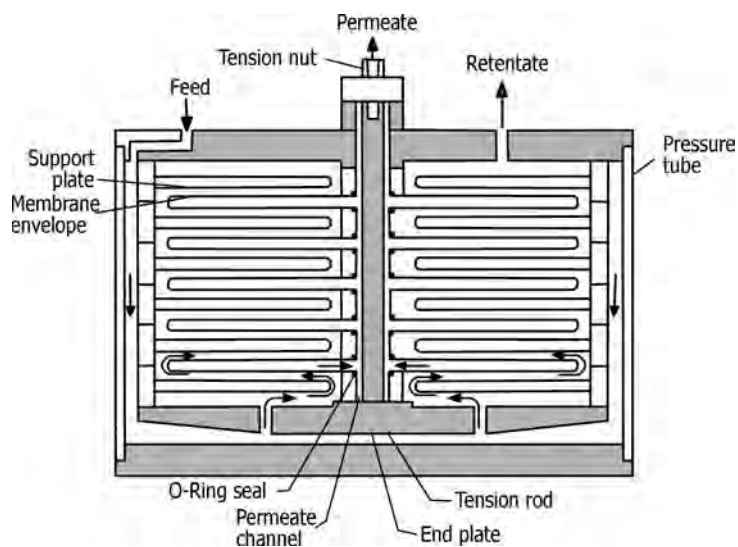

FIGURE 18.52 Plate and frame module.
- Figure 18.52 illustrates a plate and frame module.